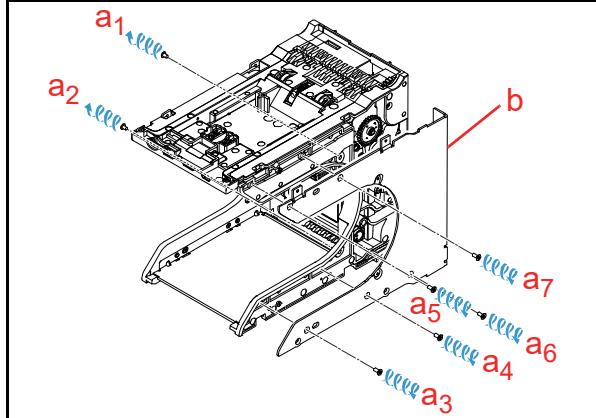

**Figure 4-52 Flap Board Removal (RQ Frame Unit) 2**
3. Unplug the single (1) Connector (Figure 4-52 a).
4. Remove the two (2) Screws (Figure 4-52 b1 & b2).
5. Remove the Flap Board (Figure 4-52 c).